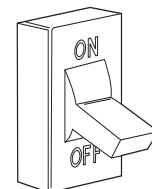

Fig. 17 – Turn Off Electrical Supply
3. Turn off electrical supply to the furnace (see Fig. 17).